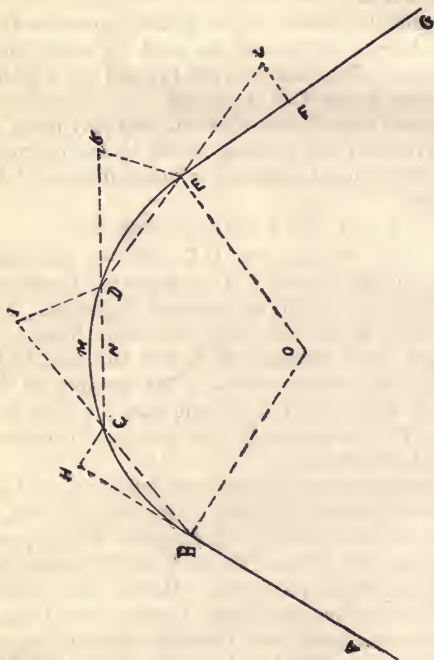

FIG. 25.
The middle ordinate of a cord is the perpendicular distance from the middle of the cord to the curve; thus M N, Fig. 25, is the middle ordinate of the cord, C D.
2. In Fig. 25, the cord, H C, subtends the angle formed by the tangent, A B, produced to H, with the cord, B C, is called the *tangent deflection*. The cord, I D, which subtends the angle formed by the cord, B C, produced to I, with the cord, C D, is called the *cord deflection*. The number of degrees in the angle, I C D, expresses the degree of curve. The tangent deflection is equal to one-half the cord deflection.